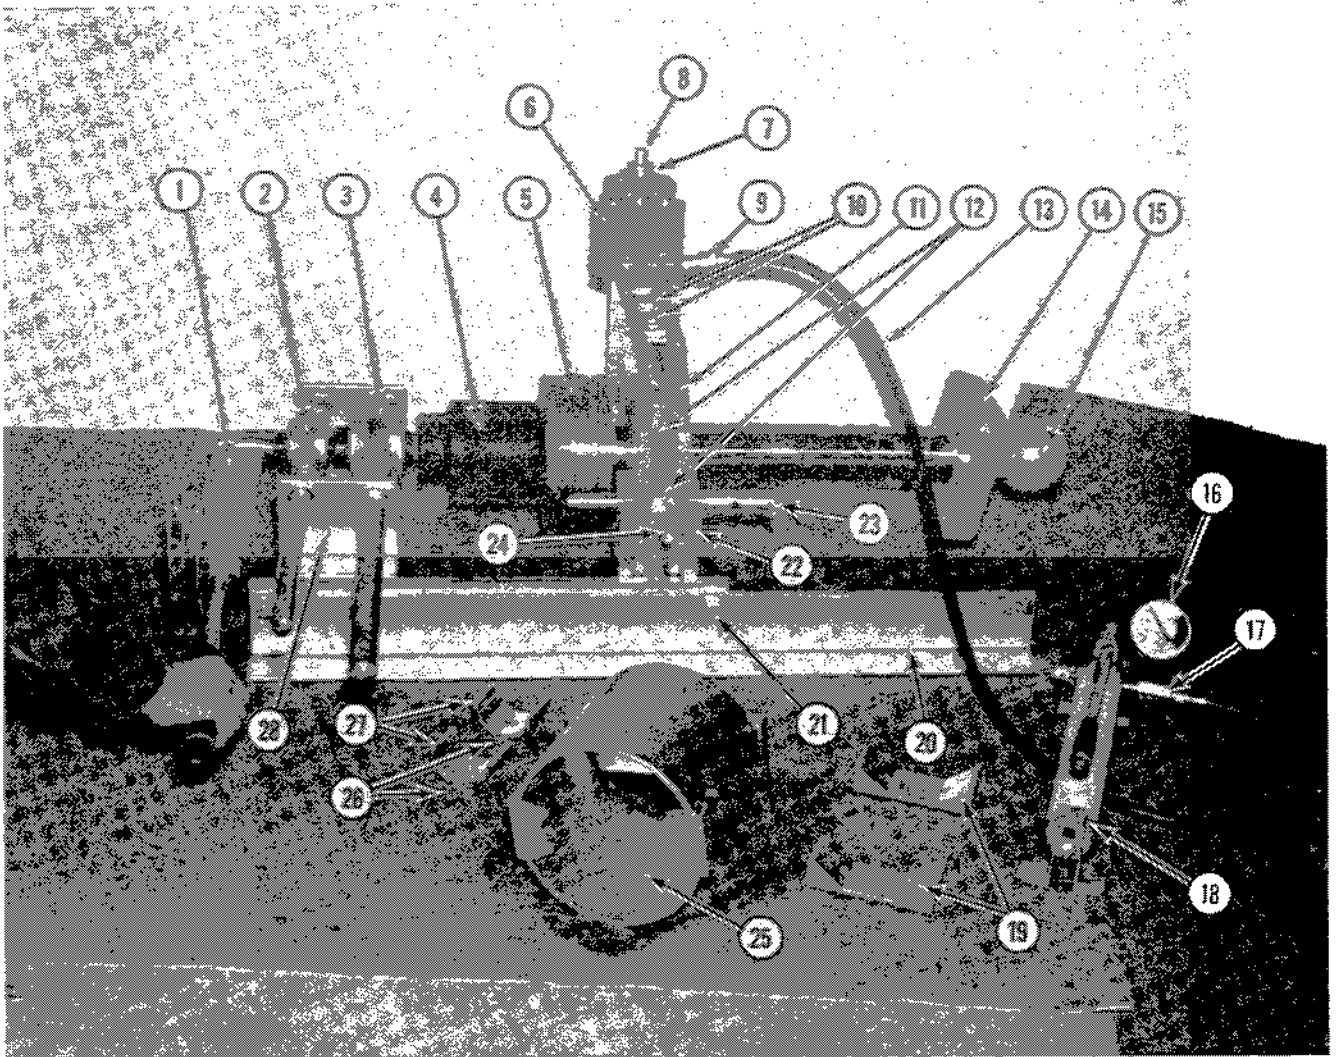

FIG.7-3 DOZER TILT CYLINDER ROD CLAMPED IN TORQUING FIXTURE
7.2.7.7 Refer to Fig.7-3, and install rod assembly into the torquing fixture. The specified torque for locknut(17) is 7185-7860 Nm (5300-5800 lbs.ft).
7.2.7.8 Using the tools shown in Fig. 7-3, input torque required to tighten locknut(17) is 450-490 Nm (330-360 lbs.ft).